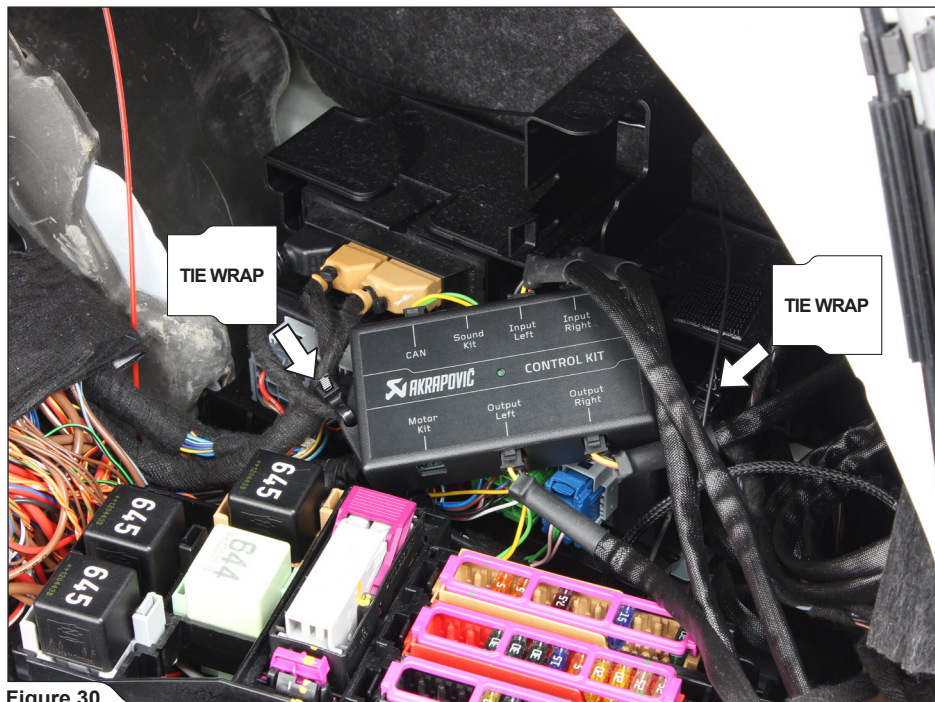

Figure 30
- Assemble the Can Bus connector and attach it back into the power distribution box; install and secure the Control Kit's unit, as shown (Figure 30).